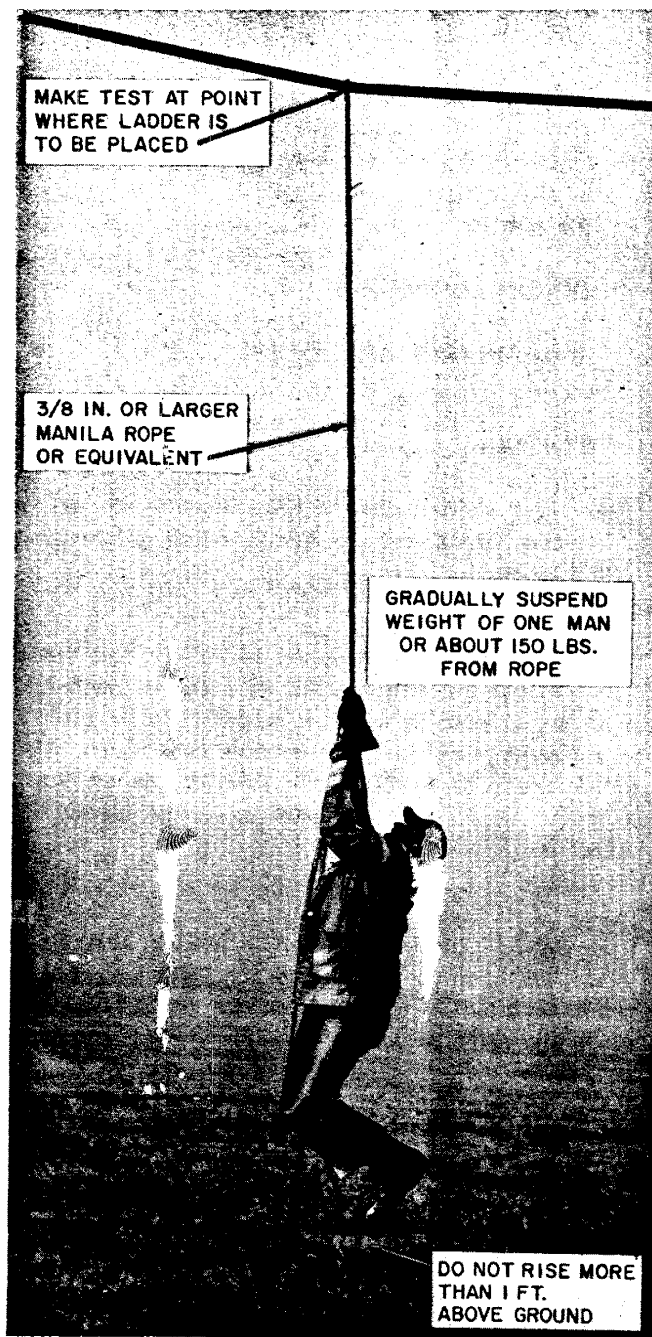

Fig. 1—Testing Strand Prior to Placing Ladder
- (1) ♦Inspect and test the poles at each end of the span (Sections 620-131-010 and 620-132-010).♦
- (2) Throw or place the handline (2.02) over the strand at the point where the ladder is to be placed.
- (3) The workman who will work from the ladder should grasp the two ends of the handline and gradually apply his full weight to the strand by lifting himself slowly off the ground (Fig. 1).